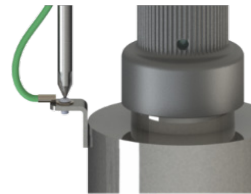

Figure 7. Ground Screw
Step 8: Tighten the captive ground screw to the ground lug on the UV chamber (Figure 7).